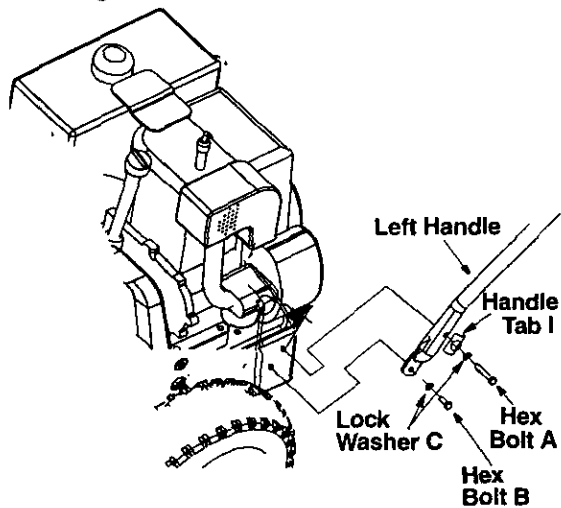

Figure 4
- Insert one each of hex bolt (B) and lock washer (C), from Group A of the hardware pack, through the bottom hole in left handle and corresponding hole in snow thrower housing. See Figure 4. Do not tighten. Repeat on the other side.
- Raise both handles up until the upper hole in each handle align with the upper hole on each side of the snow thrower housing. Secure with hex bolt (A), lock washer (C) and handle tab (I) on each side. See Figure 4.